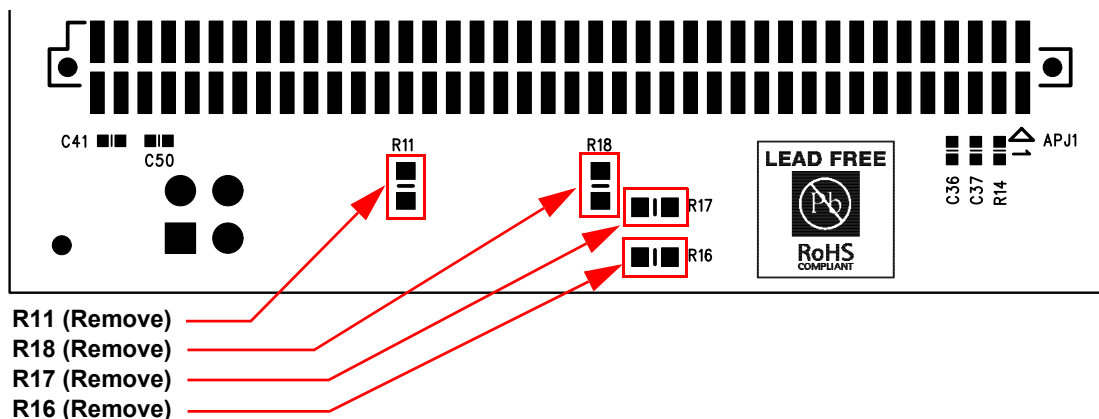

Figure 2-5. Location – R11, R16, R17, and R18 (bottom side of the PCB)
1. Remove R11, R16, R17, R18 on the bottom side of the PCB (Fig. 2-5).